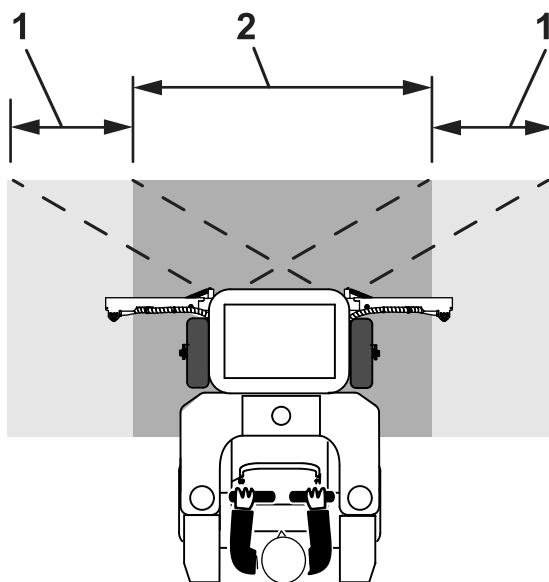

Figure 46
- Do not overlap the effective spray area that you have previously sprayed (Figure 46).